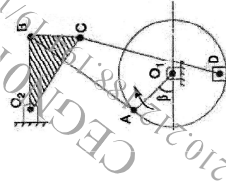

Fig. 1
- (b) Figure 1 shows a sewing needle bar mechanism O_1ABO_2CD wherein the different dimensions are as follows. Crank $O_1A = 16$ mm; Angle $\beta(\text{beta}) = 45^\circ$; Vertical distance between O_1 and $O_2 = 40$ mm, horizontal distance between O_1 and $O_2 = 13$ mm, $O_2B = 23$ mm, $AB = 35$ mm. Angle $O_2BC = 90^\circ$. $BC = 16$ mm, $CD = 40$ mm. D lies vertically below O_1 . Find the velocity of the needle D for the given configuration using ICR method when Crank O_1A rotates at 400 rpm. [12]